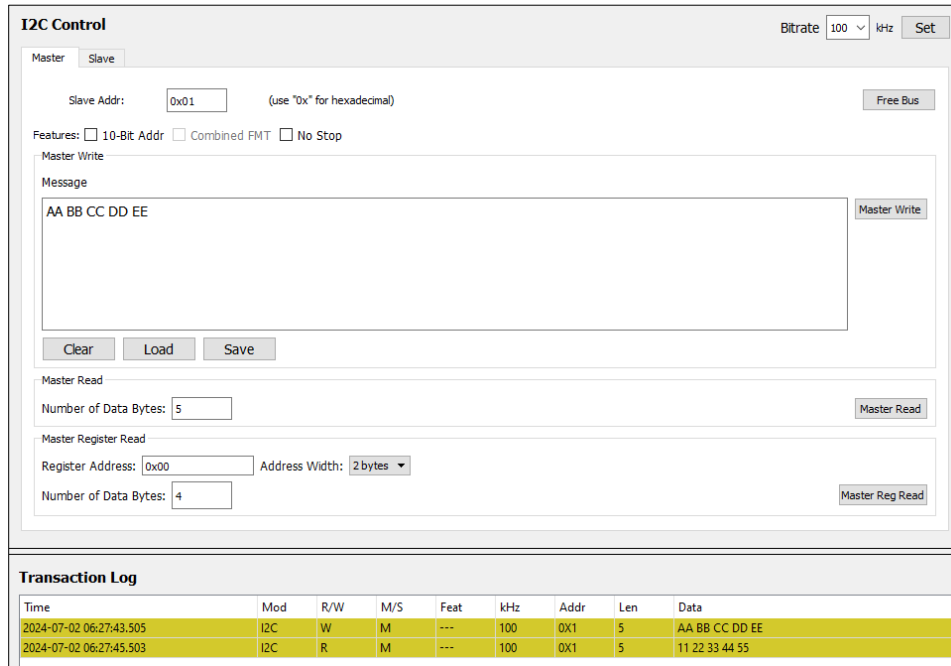

Figure 6.7. Aardvark Target Response
- Set response message on target side for read transaction (Figure 6.7).